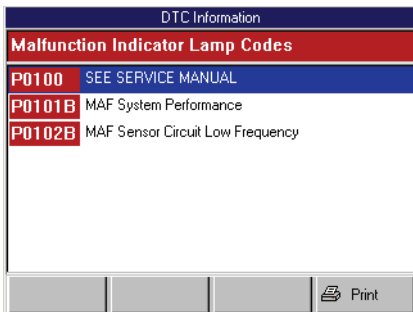

Figure 6.5: DTC Information Screen
- If the DTC Information screen appears (Figure 6.5), go to Step 6.
- If the DTC Information screen appears (Figure 6.5), go to step 6.